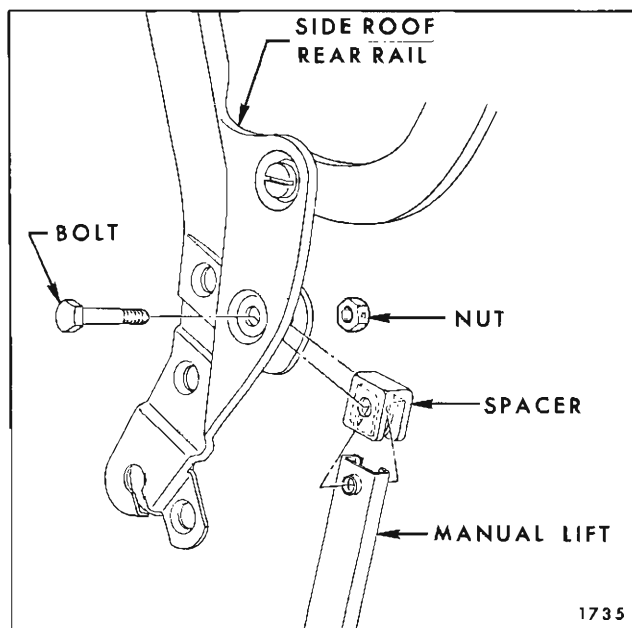

Fig. 5-I-58—Manual Lift Upper Attachment
3. At upper end of lift assembly, remove attaching nut, bolt and spacer from side roof rear rail (Fig. 5I58).